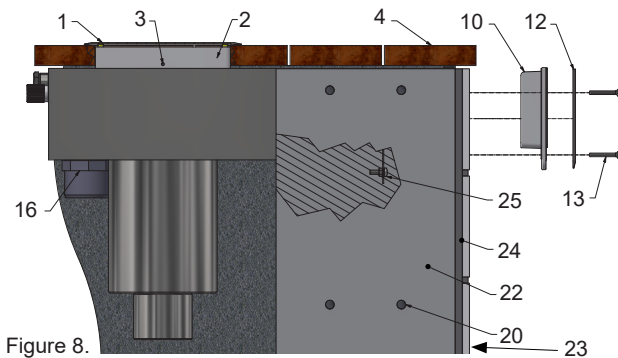
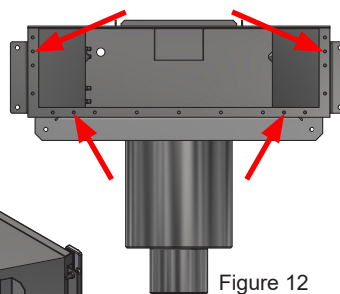

Figure 8.
Figure 12
7. Install wall cladding (fix, tile, mosaic, etc.). Make sure that the mounting holes (as shown in Figure 12) for the mounting frame are free, so the mounting frame can be fitted later.
8. Install the flap gate (17) and check that it is correctly located and can move.
9. Fit the mounting frame (10) and front (12) using the enclosed screws (4 M5x40), see Figure 8.
12. The drainage pipe (14) is glued to the pipe muff (15) using a suitable PVC adhesive and fitted in the skimmer with the enclosed gasket and nipple (16). Connect pipe fittings to the overflow.
- If necessary, cut the plastic collar (2) to height, so it matches the surface coating surrounding the pool.
- Press the collar down against the skimmer. Secure the collar in place with the enclosed screws (3).
14. Press the cover (1) into the collar.